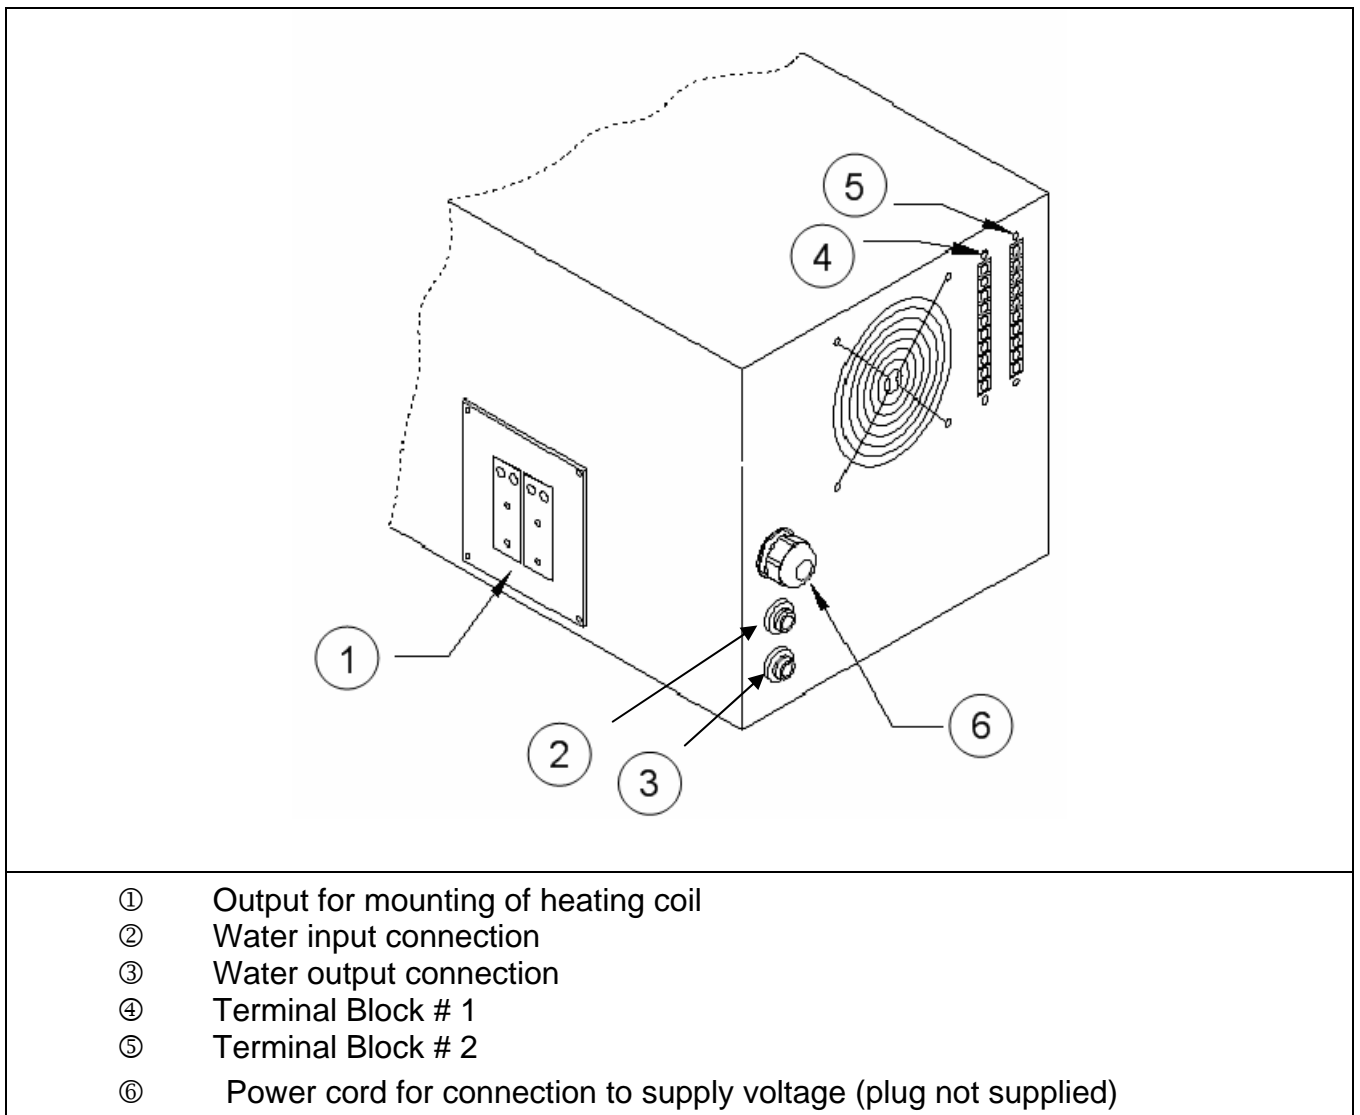

Figure 1: Terminal blocks, circuit breaker, load and input voltage connections.
Mount the heating coil to the side of the unit (see ① in Figure 1) using four 10-32 non-magnetic (e.g. brass) screws. For most applications, a water cooled coil is necessary. A differential pressure switch is used in the water path, it can be defeated by shorting out Pins 4 & 5 of Terminal Block # 2. See Appendix A for more details.
The unit is supplied with a 6 foot long cord (see ⑥ in Figure 1). Install a single phase grounded locking plug on the power cord. Connect the plug to an appropriate supply voltage outlet socket. Note the requirements of the supply voltage given in section 1.2. on page 3. Ensure that a proper safety ground is connected to the ground terminal of the three-wire socket.
The top three terminals of Terminal Block # 1 can be utilized for remote power reference. (see ④ in Figure 1 on page 7). The lower three terminals can be used to interface the power supply with a computer. APPENDIX A: User Interface on page 17 explains the connections in more detail.